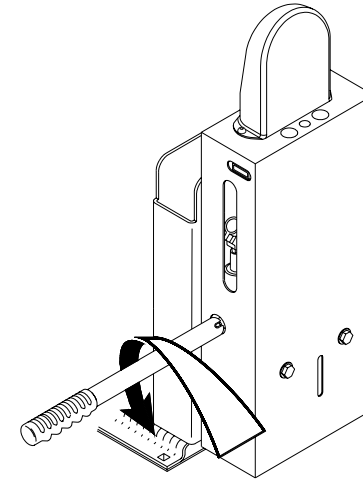

FIGURE 2-12: OPEN RELEASE VALVE
- b. Refer to **Figure 2-12**. Insert notched end of pump handle into circular hole on hydraulic pump cover and engage pump release valve.
- c. Refer to **Figure 2-12**. Open valve by turning it $\frac{1}{4}$ turn counter-clockwise and platform will begin to lower.
- a. Refer to **Figure 2-12**. Turn valve 1/4 turn counter-clockwise to begin lowering platform.